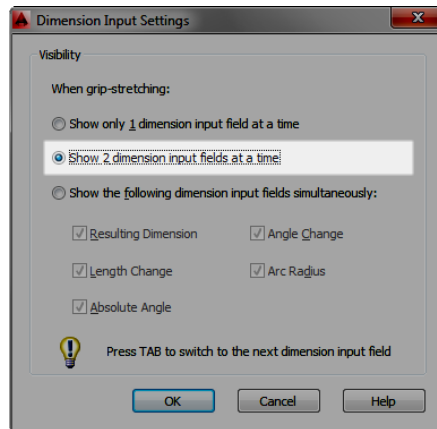

FIGURE 3.18: The Dimension Input Settings dialog box
5. In the Dimension Input group of the Drafting Settings dialog box, click the Settings button to open the Dimension Input Settings dialog box (see Figure 3.18).